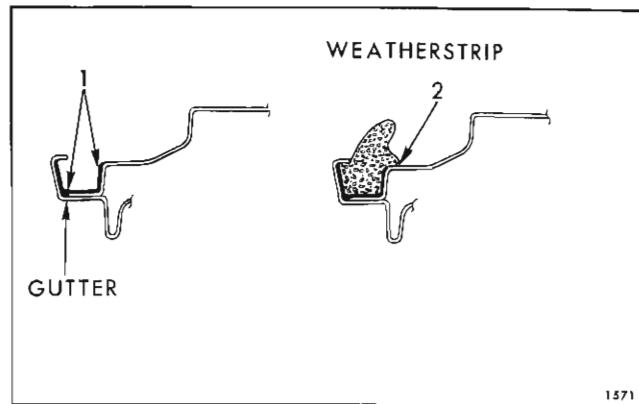

Fig. 2F15—Rear Compartment Weatherstrip
- Apply (brush) a continuous coat of neoprene weatherstrip adhesive along bottom, inner and outer walls of gutter as indicated at "1" in Figure 2F15 around complete length of gutter.